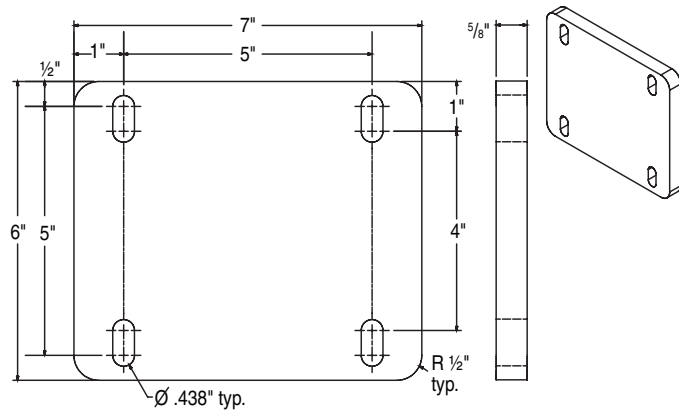

Figure 8
- 1 Locate Lift Angle from the board mounting kit (see Fig. 8).